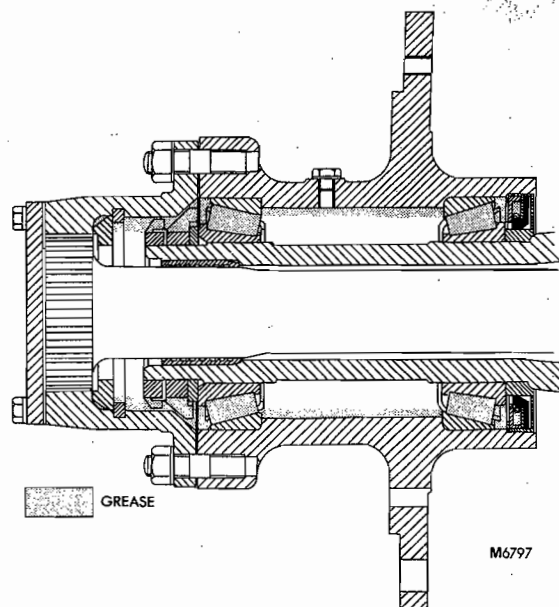

FIG. 9 HUB GREASING
**Important:** DO NOT completely fill this cavity with grease, a gap must be left to allow for expansion, see Fig. 9.